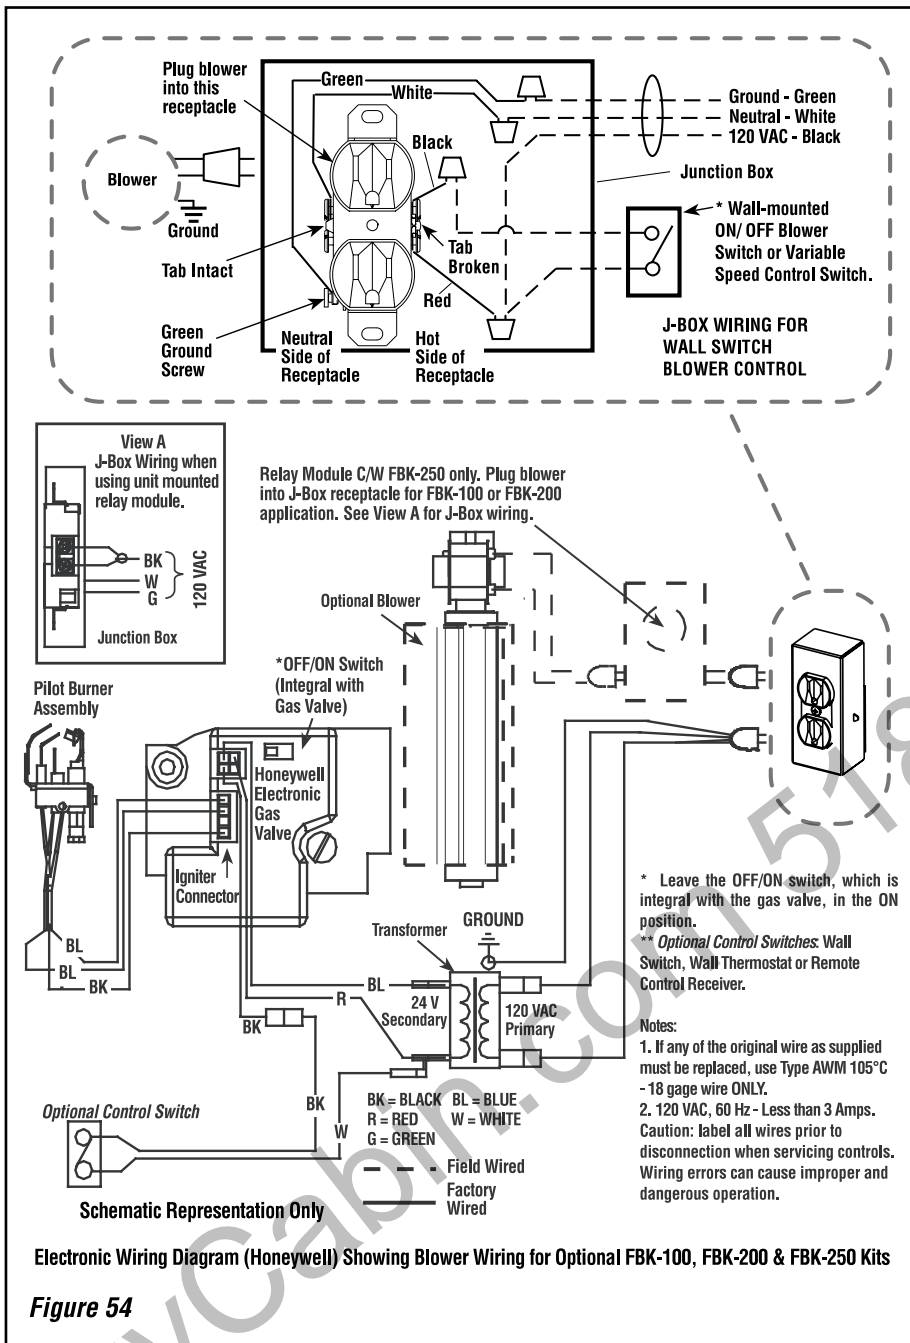

Figure 54
2. Install the junction box and receptacle outlet to the left of the valve in the front (for optional blower kit). See junction box and receptacle outlet as explained in steps 1-11 for (B) Electronic Wiring (on this page).
B. Electronic Wiring (See Figure 54)
6. Install the snap bushing (provided in kit) into the selected cabinet knockout opening in side cabinets (see *Figures 17 through 20 and 53*). The snap bushing provides protection for the wires (see note below) passing through side cabinet going to an optional burner control switch. Wire in the burner control switch to the low voltage circuit as shown in *Figure 54*.
(See **Figure 54** on page 29 for wiring) -